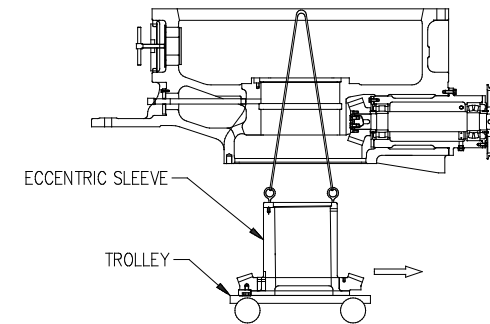

Fig. 6.8.6
12. Provide a stand on which to place the eccentric sleeve, then gently lower the eccentric sleeve onto the stand. (Fig. 6.8.6).